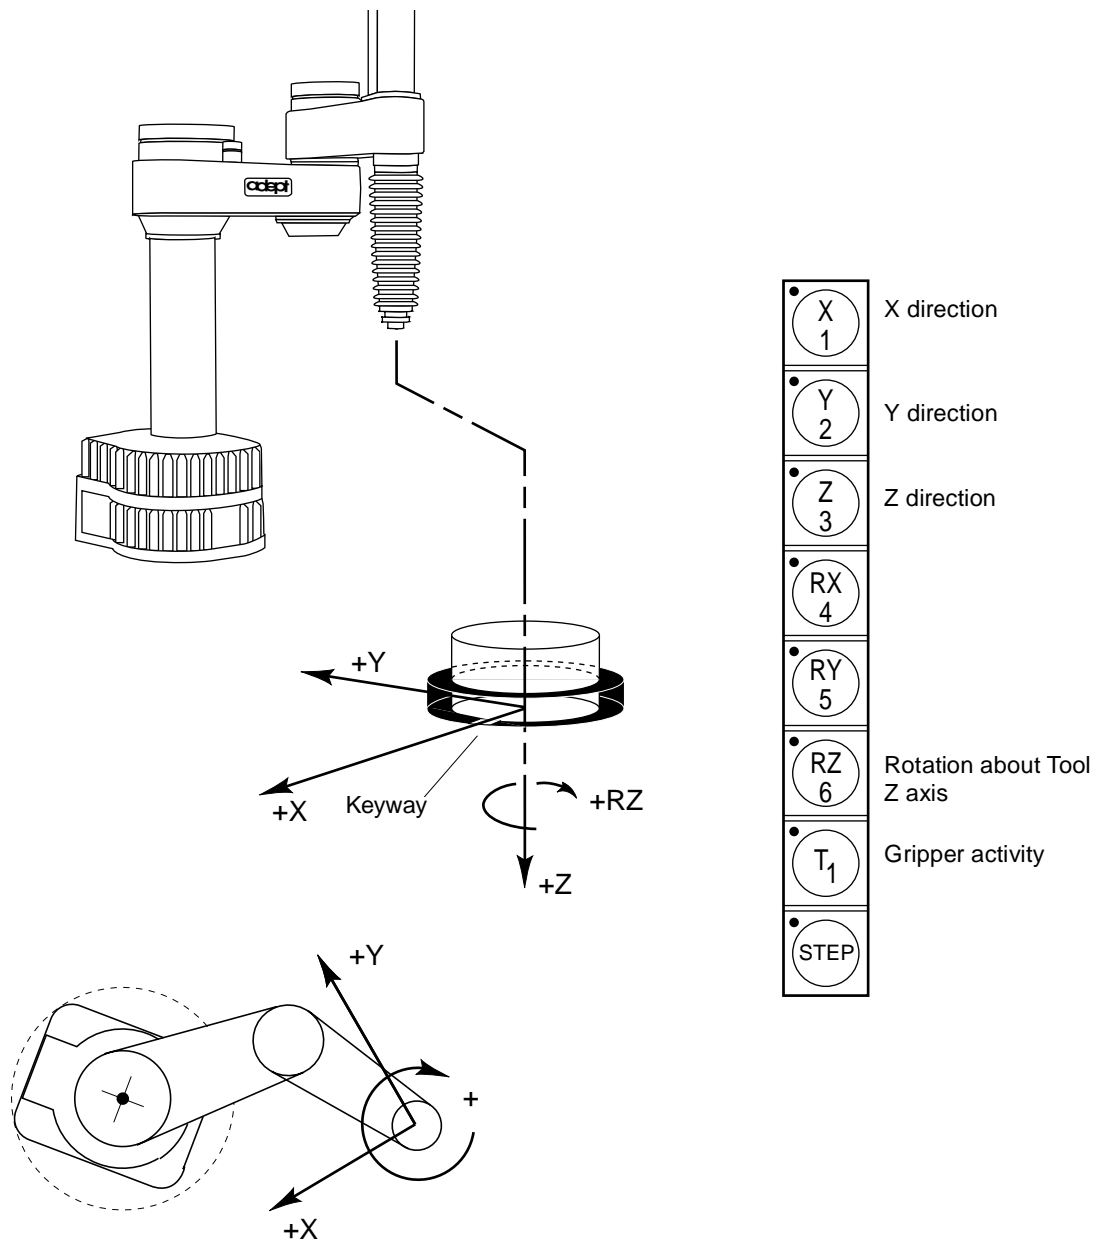
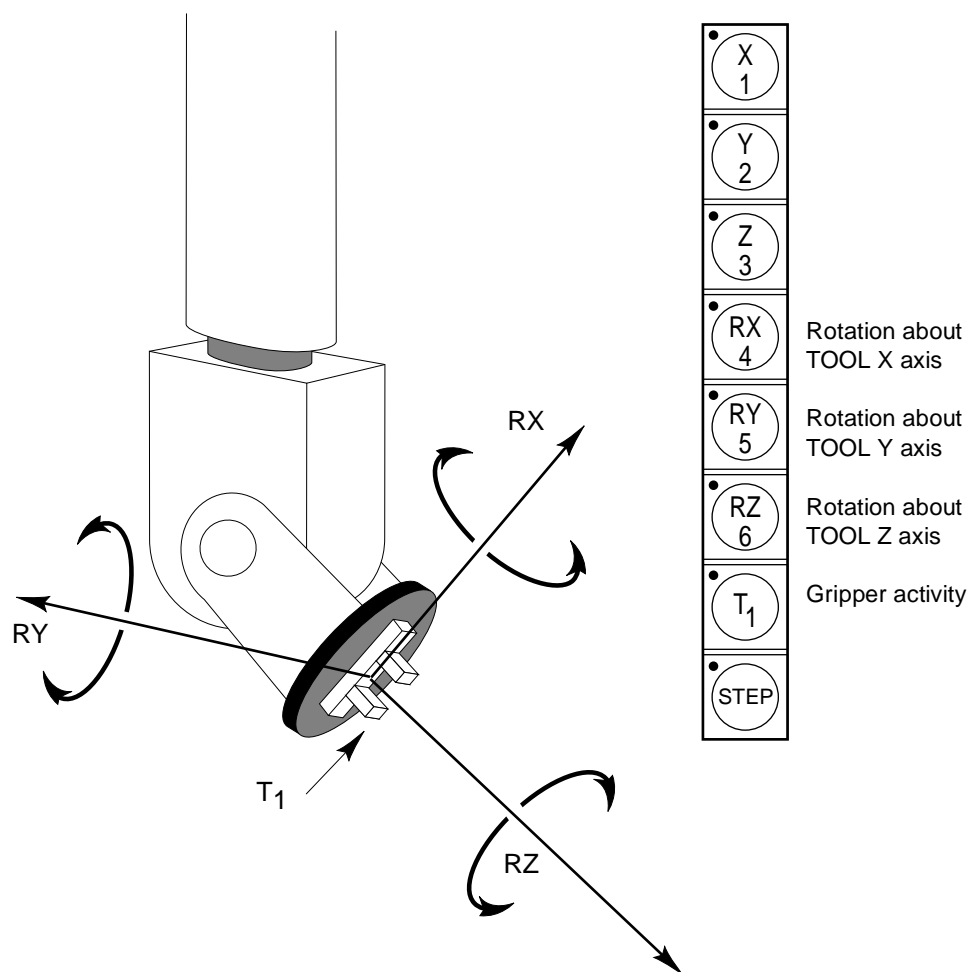

Figure 8-14. TOOL State (Four-Axis SCARA)
Figure 8-15. TOOL State (Six-Axis Robot)
In a four-axis robot, positive rotation of the gripper (RZ) is clockwise as viewed from above. Figure 8-14 shows the tool coordinate system for a four-axis SCARA robot.
Figure 8-15 shows the tool coordinate system on a six-axis robot.
NOTE: Figure 8-14 and Figure 8-15 are drawn with the assumption that the TOOL transformation is set to NULL (all values are 0). If a TOOL transformation is in effect, the tool coordinate system will be offset and rotated by the value of the TOOL transformation. Any motion in tool state will now be relative to the offset coordinate system, and not the center of the tool flange. See the *V⁺ Language Reference Guide* for details on TOOL transformations.